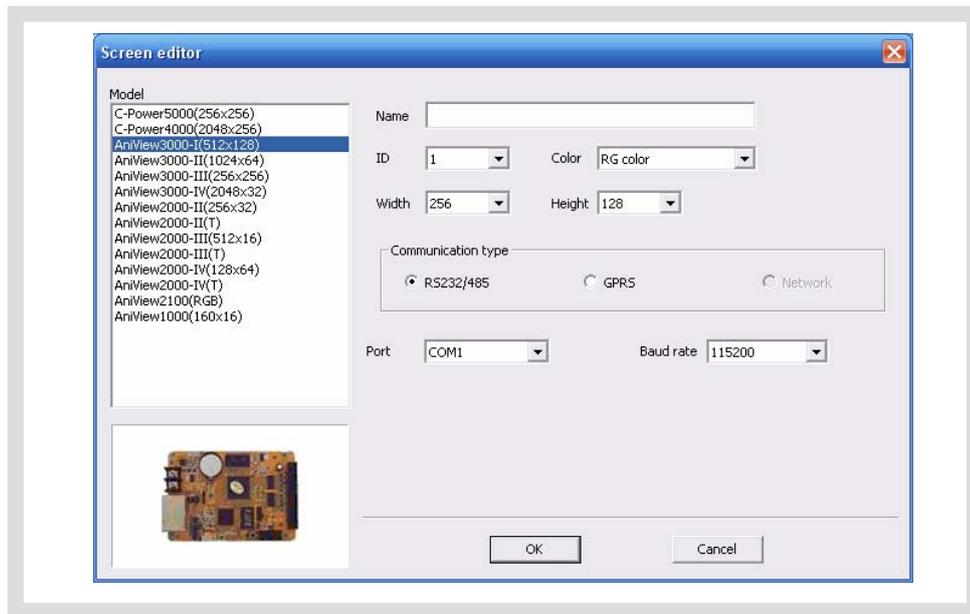

Figure4 “Screen editor” dialog box under COM port mode
- 3) Enter password in the authority confirmation box, and the box of “Screen editor” pops up, as shown in Figure4.